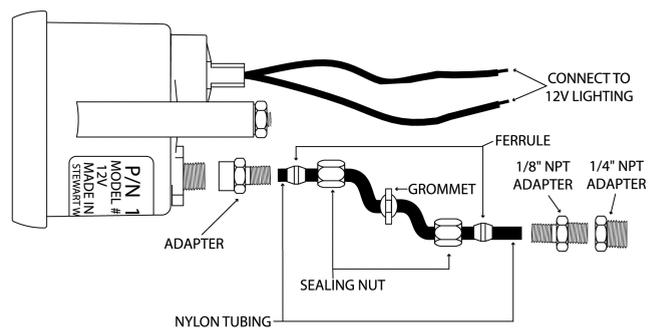

Figure 2
**PRESSURE, VACUUM, & BOOST SET-UP (Figure 2):**
6. Connect one (1) of the light wires (**WHITE**) to the dash lighting circuit or to a +12V switched circuit.